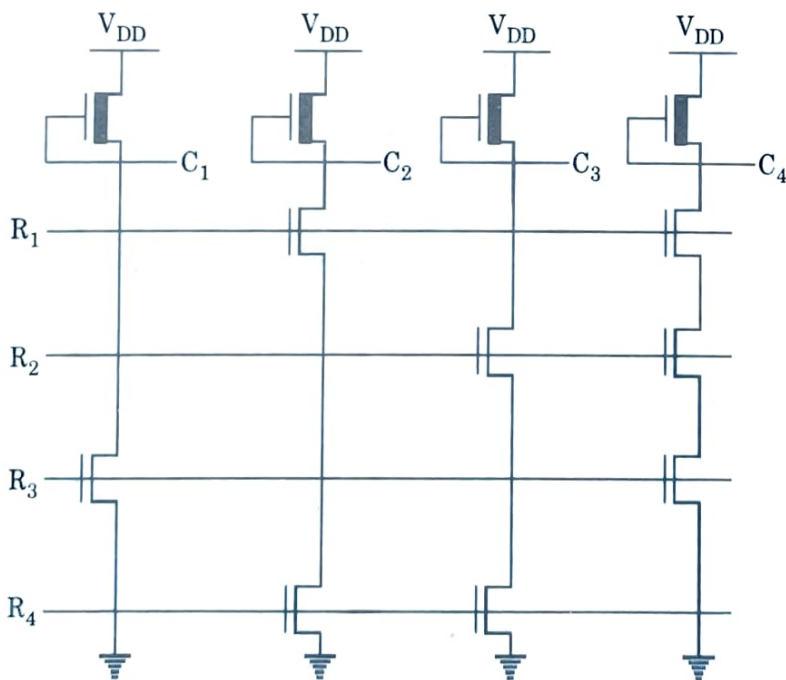

Fig. 4.6.1. 4 bit × 4 bit NAND-based ROM array.
1. Fig. 4.6.1 shows a NAND-based ROM array.